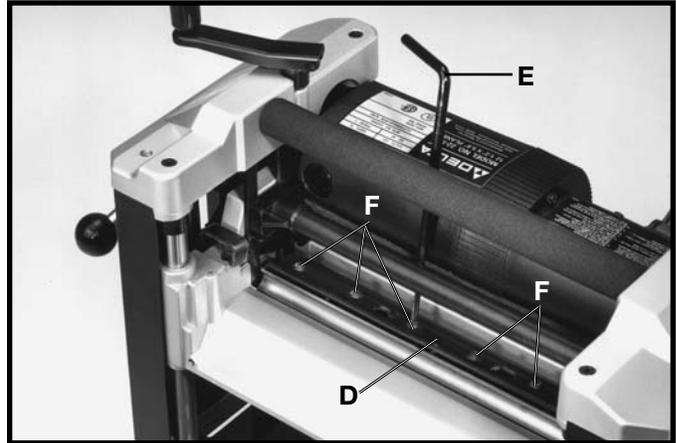

Fig. 30
7. Using the wrench (E) Fig. 30, supplied, unscrew the six screws, five of which are shown at (F), only enough until locking bar (D) separates from knife, allowing knife to be removed.